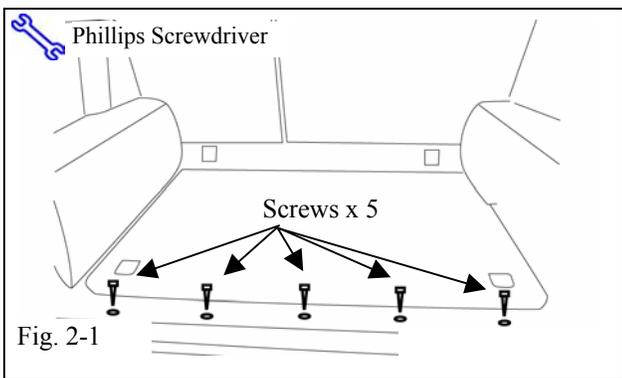

Fig. 2-1
- (1) Remove 5 screws.(Fig 2-1)
- (2) Scuff plate is attached by plastic clips. Use nylon pry tools to lift and remove trim plate.